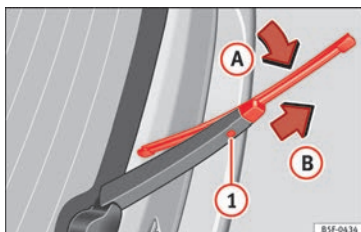

Fig. 81 Changing the rear wiper blade
- Turn the blade slightly » **Fig. 81** (arrow **A**).
- Hold down the release button **❶** while gently pulling the blade in the direction of arrow **B**.
- Insert a new blade of the **same length and type** in the rear wiper arm in the opposite direction to the arrow **B** and hook into place button **❶**.